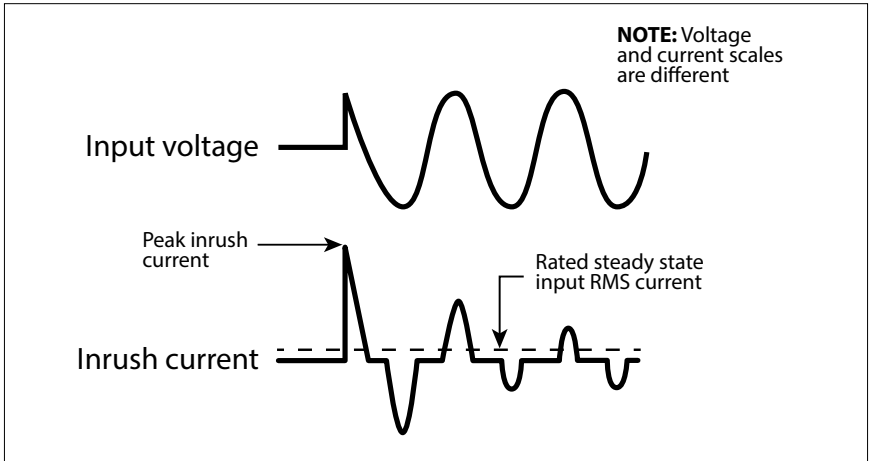

Fig 4.1: Inrush current in an SMPS
- **AC to DC Switched Mode Power Supplies (SMPS):** This type of power supply is used as stand-alone power supply or as front end in all electronic devices powered from Utility / Grid e.g. in audio/video/ computing devices and battery chargers (*Please see Section 4 for more details on SMPS*). When this power supply is switched ON, its internal input side capacitors start charging resulting in very high surge of Inrush Current for a few milliseconds (*Please see Fig 4.1*). This surge of inrush current / power may reach up to 15 times the Continuous Maximum Running Power Rating. The surge of inrush current / power will, however, be limited by the Surge Power Rating of the AC source.
**Power Factor, (PF):** It is denoted by "PF" and is equal to the ratio of the Active Power (P) in Watts to the Apparent Power (S) in VA. The maximum value is 1 for resistive types of loads where the Active Power (P) in Watts = the Apparent Power (S) in VA. It is 0 for purely inductive or purely capacitive loads. Practically, the loads will be a combination of resistive, inductive and capacitive elements and hence, its value will be  $0 < PF < 1$ . Normally it ranges from 0.5 to 0.8 e.g. (i) AC motors (0.4 to 0.8), (ii) Transformers (0.8) (iii) AC to DC Switch Mode Power Supplies (0.5 to 0.6) etc.
Switch Mode Power Supplies (*SMPS*) are extensively used to convert the incoming AC power into various voltages like 3.3V, 5V, 12V, 24V etc. that are used to power various devices and circuits used in electronic equipment like battery chargers, computers, audio and video devices, radios etc. SMPS use large capacitors in their input section for filtration. When the power supply is first turned on, there is a very large inrush current drawn by the power supply as the input capacitors are charged (*The capacitors act almost like a short circuit at the instant the power is turned on*). The inrush current at turn-on is several to tens of times larger than the rated RMS input current and lasts for a few milliseconds. An example of the input voltage versus input current waveforms is given in Fig. 4.1. It will be seen that the initial input current pulse just after turn-on is > 15 times larger than the steady state RMS current. The inrush dissipates in around 2 or 3 cycles i.e. in around 33 to 50 milliseconds for 60 Hz sine wave.